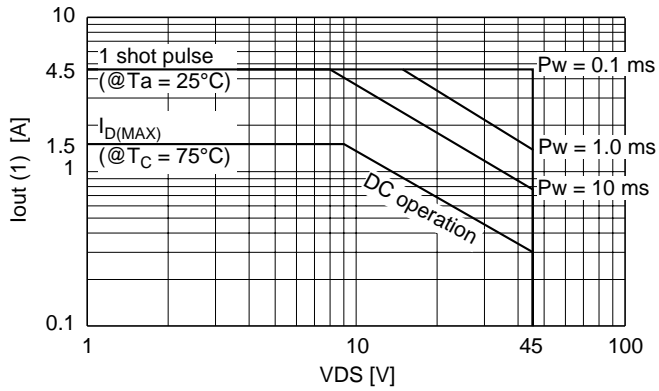

Figure 1 ASO Range
4. Applies to the U, V, and W output pins (Pins 2, 4, and 6). The operation locus of each TRS must not exceed the ASO range shown in figure 1.